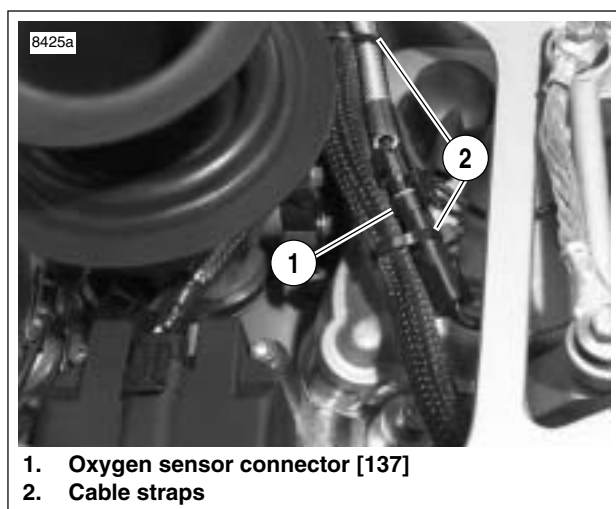

Figure 4-73. Oxygen Sensor Connector [137] (984 Models)
6. See Figure 4-73. Remove cable straps (2). Unplug 1-place connector [137] (1).
5. See Figure 4-73. Connect 1-place connector [137] (1) to wiring harness.
6. Install cable straps (2).